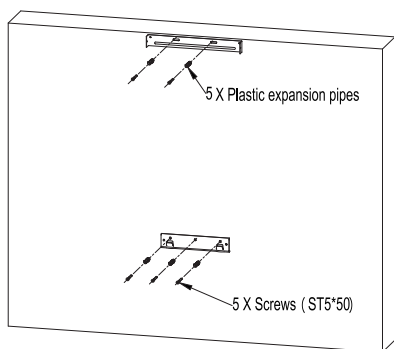

Fig.4
- Fit installation plate and extension chimney installation plate, install the plastic expansion pipes of chimney installation plate on wall. See Fig.4.